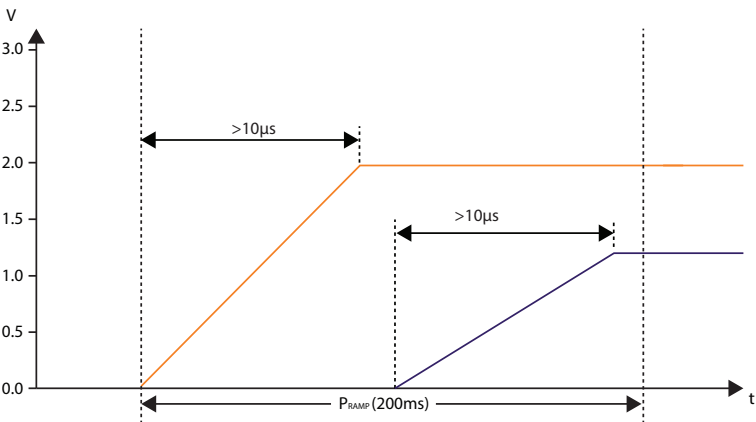

Figure 3-1: Power Ramp Up Time P_{RAMP}
2. The time from the first power supply starting point to the last power supply end point must be less than 200ms . See Figure 3-1: Power Ramp Up Time \$P_{\text{RAMP}}\$ .